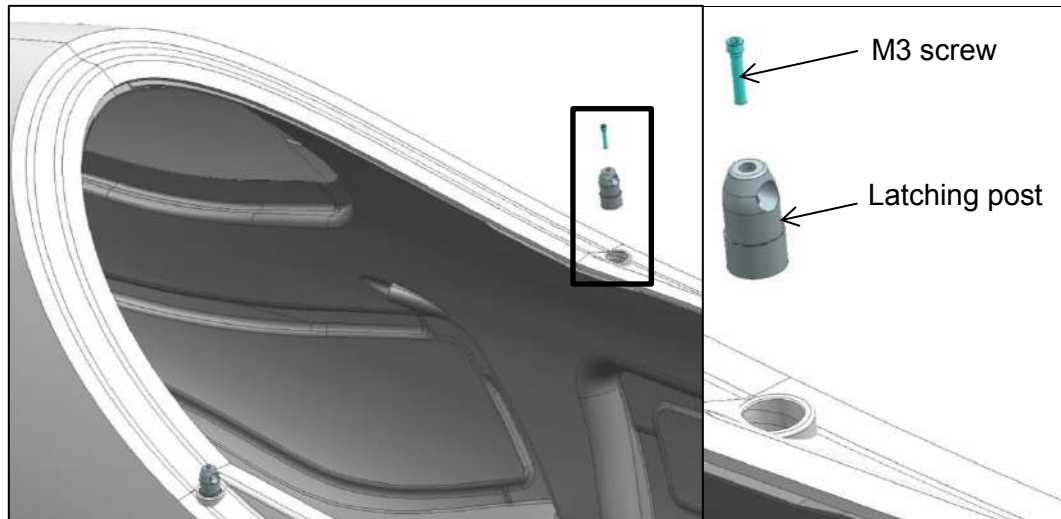

Figure 52-4: Canopy vertical latch adjustment
1. Remove the M3 locking screw from inside the fuselage pin. The screw can be accessed through the hole in the top of the pin (Figure 52-4).